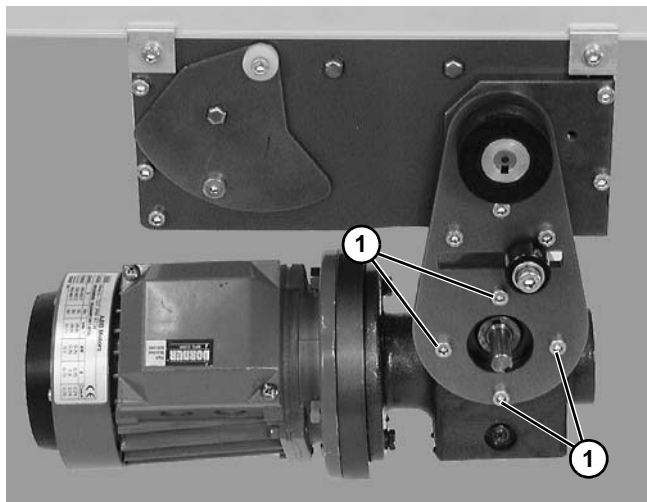

Figure 18
4. Remove four (4) gear reducer mounting screws (**Figure 18, item 1**). Remove gearmotor.